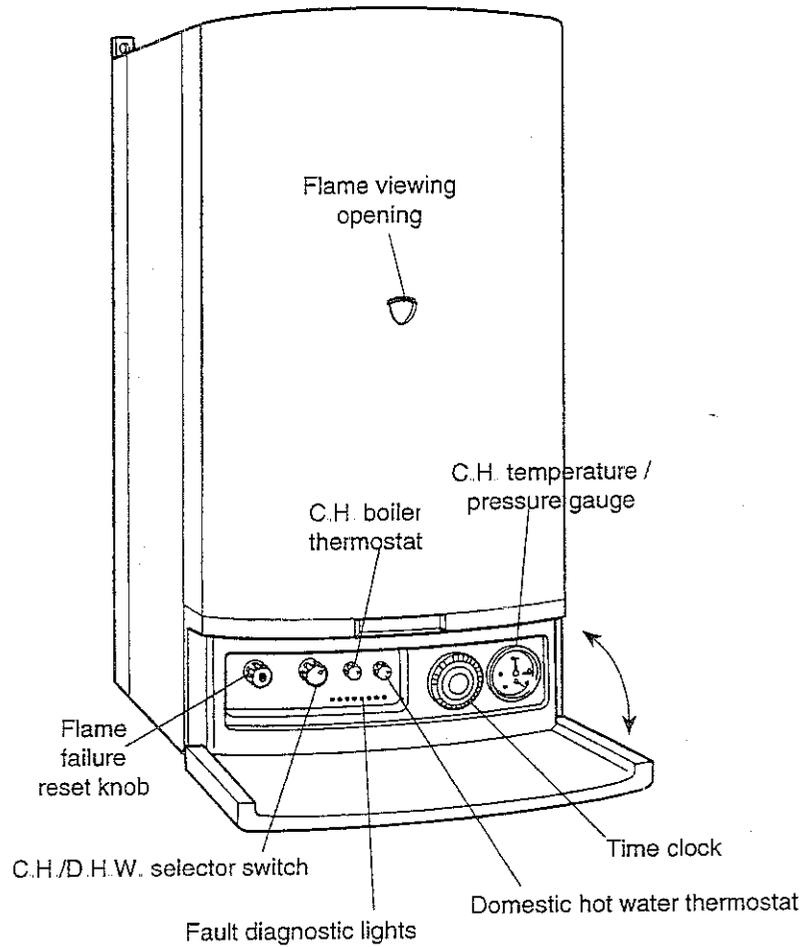

fig. 21
8.5 To Light the Boiler (fig 21)